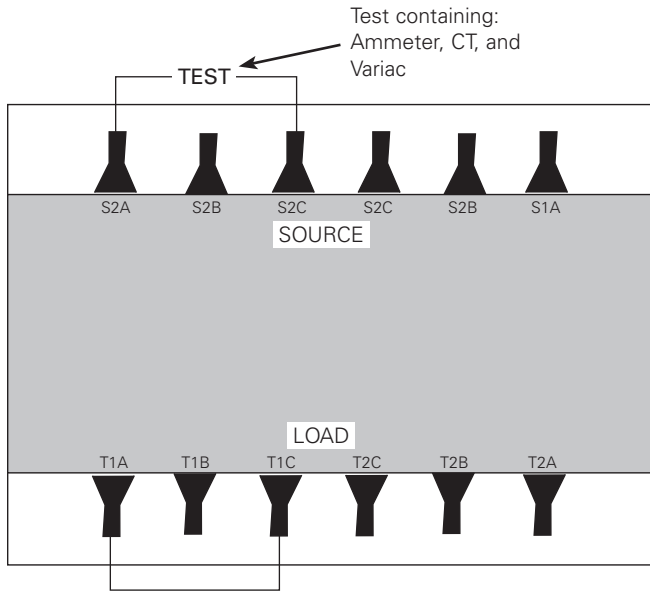

Figure 8. Typical padmount unit in AØ to CØ test
1. Place 2/0 jumper between A and B Phase of Load side of unit. (See Figure 8)
1. Place 2/0 jumper between A and C Phase of Load side of unit. (See Figure 8)